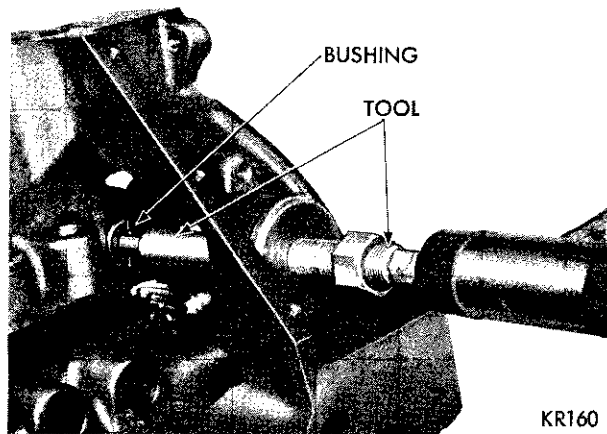

Fig. 32—Installing Distributor Drive Shaft Bushing
(1) Slide a new bushing over burnishing end of Tool C-3053 and insert tool bushing into the bore.
(2) Drive bushing and tool into position, using a soft hammer, (Fig. 32).